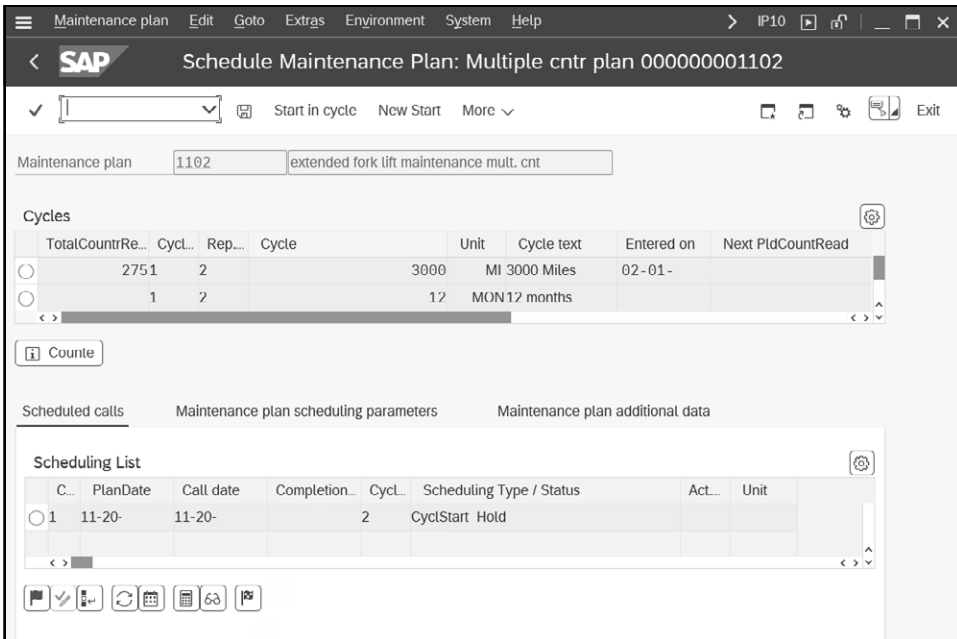

Figure 5.64: Enhanced Multiple Counter Plan: Scheduled
- If you selected **OR - Link**, the system suggests the first planned date as the order's planned date (**PlanDate**); if you selected **AND - Link**, it suggests the last planned date. The system also shows which cycle set sequence is due next (see Figure 5.64).